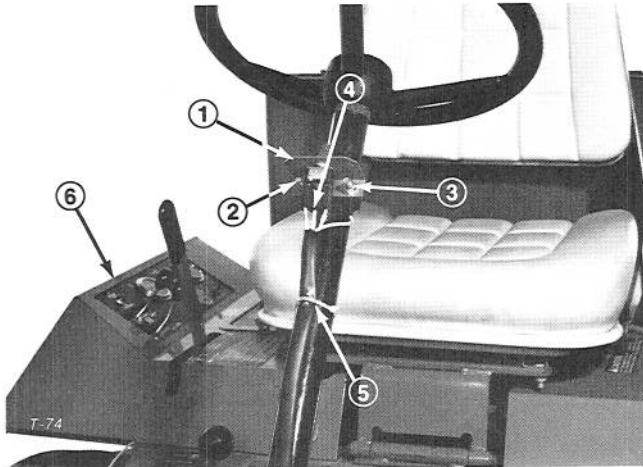
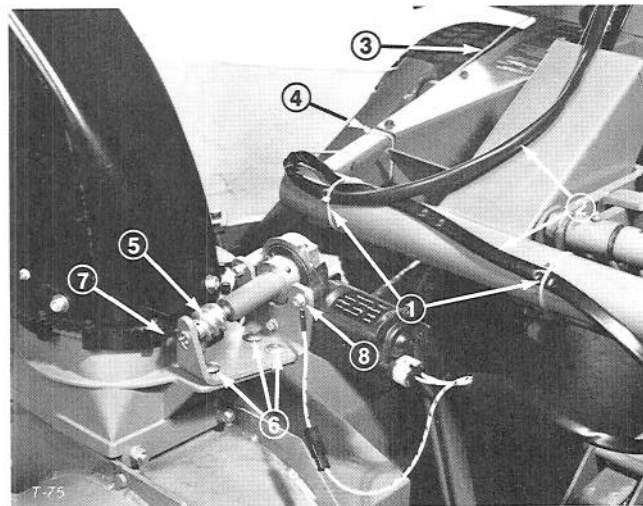
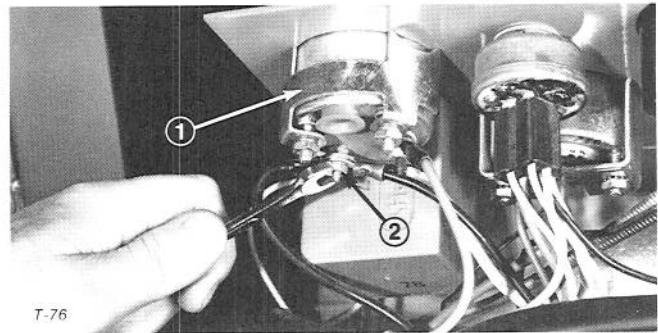

Figure 13
Figure 14
Figure 15
1. Assemble muffler clamp around steering column, mount switch plate onto clamp and install nut onto right side and eyelet end of striped harness wire and nut onto left side (Fig. 13).
2. Install female wire harness ends onto switch terminals (Fig. 13). Assure red wire is attached to the center terminal.
3. Secure harness to steering column with tie straps (Fig. 13). Loop any excess harness together and secure to frame with tie straps to assure harness stays clear of moving parts (Fig. 14).
4. Lift instrument cover over battery and remove the negative battery cable from the battery (Fig. 13).
5. Route the remaining single strand harness wire along the right side of the frame, secure it to the frame with tie straps (Fig. 14) and connect end to positive (+) terminal of the ammeter (Fig. 15).
9. Actuate switch and observe mesh of chute gear and chute ring. Chute gear should mesh with ring as close as possible without binding (Fig. 14). Adjust mesh, if necessary, by loosening chute gear fasteners and sliding chute gear mount in or out (Fig. 14).